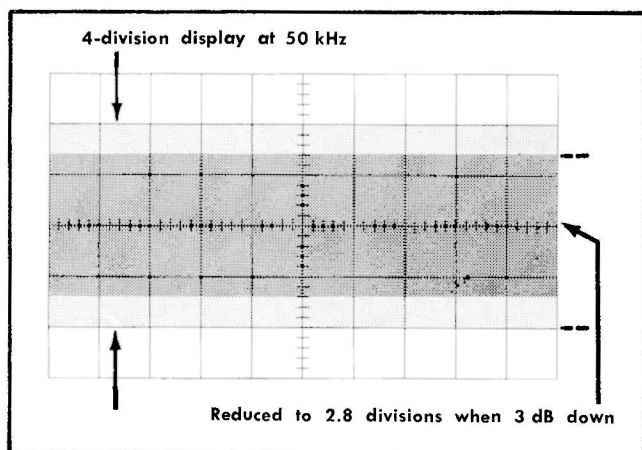

Fig. 6-4. Typical CRT display when checking frequency response.
- Increase the frequency until there is exactly 2.8 cm of deflection. See Fig. 6-4.